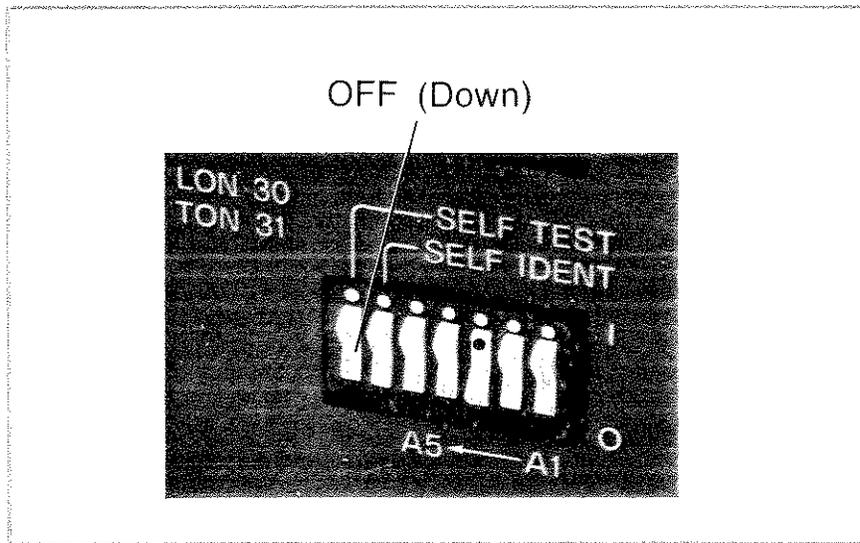

Figure 2-6: Self Test Switch OFF
3. Verify that the self-test switch is off unless you are conducting a self-test. The self-test switch is shown in the photo below (Figure 2-6).